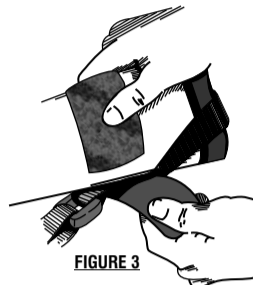

FIGURE 3
3. Carefully lay the shotgun onto its side. Wrap the loop (soft) material over the comb (top) of the stock. **Figure 3.**